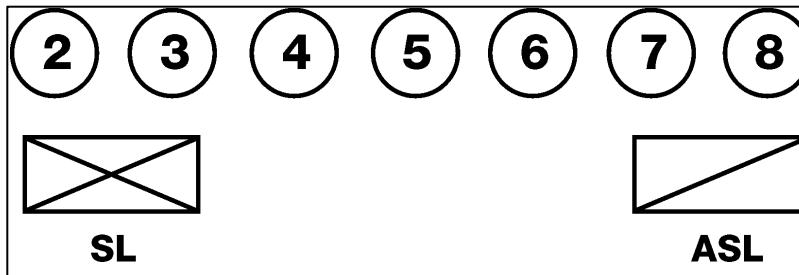

**Figure 191-378-4302-1. Squad Line Formation with Squad Leader and Assistant Squad Leader**
2. Direct the squad in forming a squad line (figure 191-378-4302-1).